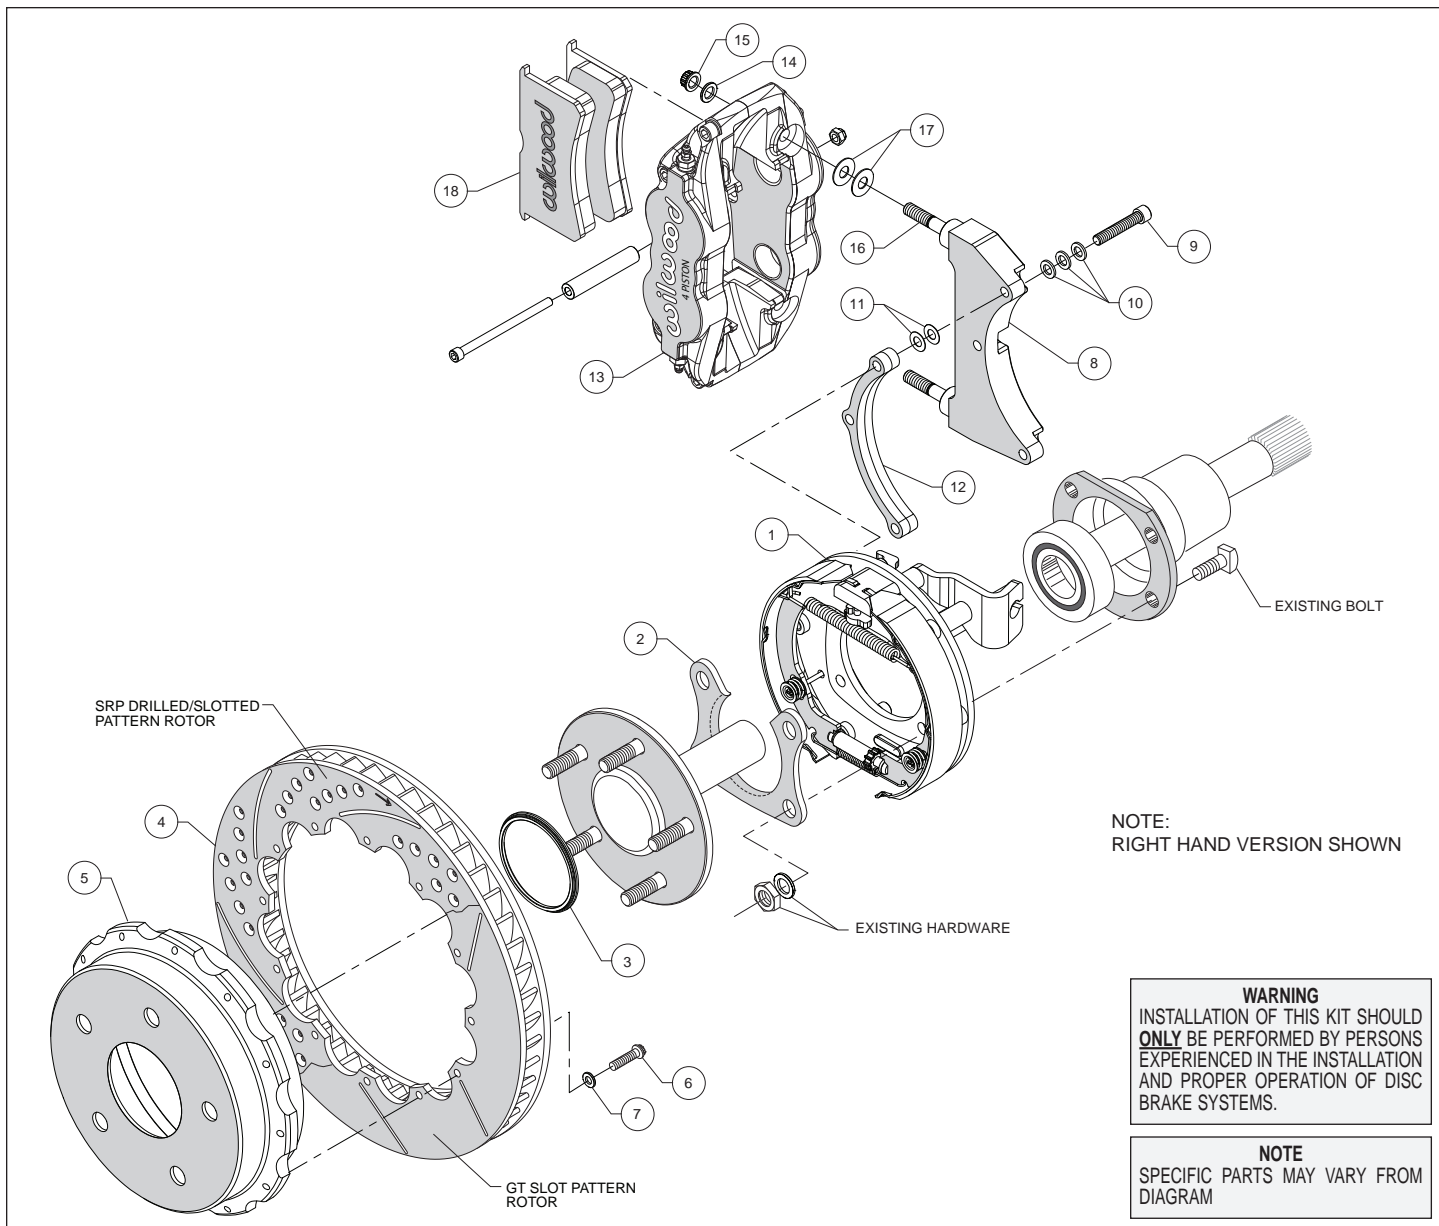
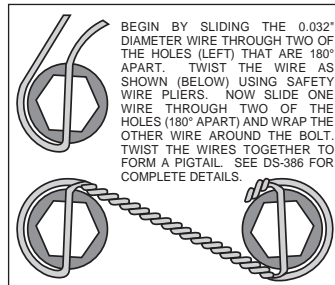

Figure 1. Typical Installation Configuration
Figure 5. Safety Wire Diagram
Assembly Instructions (numbers in parenthesis refer to the parts list, and Figure 1 on the preceding pages): **CAUTION:** All mounting bolts must fully engage clinch nuts. Be sure to check that all bolts are either flush or protruding through flanged side of clinch nut after shiming.
- Orient the bracket assembly (1) as shown in Figure 1 and Photo 1 and slide it onto the axle. Insert the axle and bracket into the axle housing. Ensure that the bracket assembly backing plate fits flush against the axle housing flange.
- Install the bearing retainer (2) with the opening pointing upward and the lip facing inward (toward the bearing), as shown in Figures 1 and 4, and Photo 2. Secure retainer and bracket assembly to the axle housing flange using the Original Equipment Manufacturer (OEM) bolts, washers, and nuts, Figure 1. Apply red *Loctite*® 271 to the OEM bolt threads and torque to OEM specifications.
•**NOTE:** Please reference the caution statement at the beginning of the assembly instructions. The caliper mounting bracket (8) should initially be installed with clean, dry threads on the mounting bolts. Orient the bracket as shown in Figure 1 and Photo 3, and install using bolts (9) and three flat washers (10). Initially place two .015" shim washers (11) on each bolt between the bracket (8) and spacer (12), Figure 1. Temporarily tighten the mounting bolts. **NOTE:** End of bolt should not exceed inside face of insert. The bracket must tighten squarely against the back side of the bracket kit assembly (1). Later, after the caliper alignment has been checked, the mount bolts will be secured using red *Loctite*®.
•Orient the rotor (4) and the hat (5) as shown in Figure 1 and Photo 4. Attach rotor to hat using bolts (6) and washers (7). Using an alternating sequence, apply red *Loctite*® 271 to the threads, and torque to 140 **in-lbs**. For an added measure of security, the bolts may be safety wired using standard 0.032 inch diameter stainless steel safety wire as shown in Figure 5. Please refer to Wilwood's data sheet DS-386 (available at www.wilwood.com/Pdf/DataSheets/ds386.pdf) for complete safety wire installation instructions.
•Slide the rotor registration adapter (3) onto the axle register on the axle flange with the smaller O.D. facing toward the rotor/hat (4/5), Photo 5. Align the hole pattern in the hat with the stud pattern on the axle flange and slide into place, Figure 1 and Photo 6. **NOTE:** The rotor/hat must fit flush against the axle flange or excessive rotor run out may result. Install three lug nuts (finger tight) to keep the rotor/hat assembly in place while continuing with the installation. **NOTE:** Some OEM and after market axles come with stud sizes larger than 0.50" diameter. Verify stud size and have a qualified machine shop drill the bolt circle of the hat/rotor to the correct stud size, if necessary.
•Lubricate the caliper mounting studs (16) with lightweight oil. Initially place two .035" thick shims (17) on each stud as shown in Figure 1 and Photo 7. Mount the caliper (13) onto the bracket (8) using lock nuts (15) and washers (14), Figure 1. Temporarily tighten the lock nuts and view the rotor through the top opening of the caliper. The rotor should be centered in the caliper, Photo 8. If not, adjust by adding or subtracting shims (11) between the bracket (8) and the spacer (12). Always use the same amount of shims on each of the three mounting bolts. Once the caliper alignment is correct, remove the bracket mounting bolts (9) one at a time, apply red *Loctite*® 271 to the threads, and torque to 180 **in-lb**.